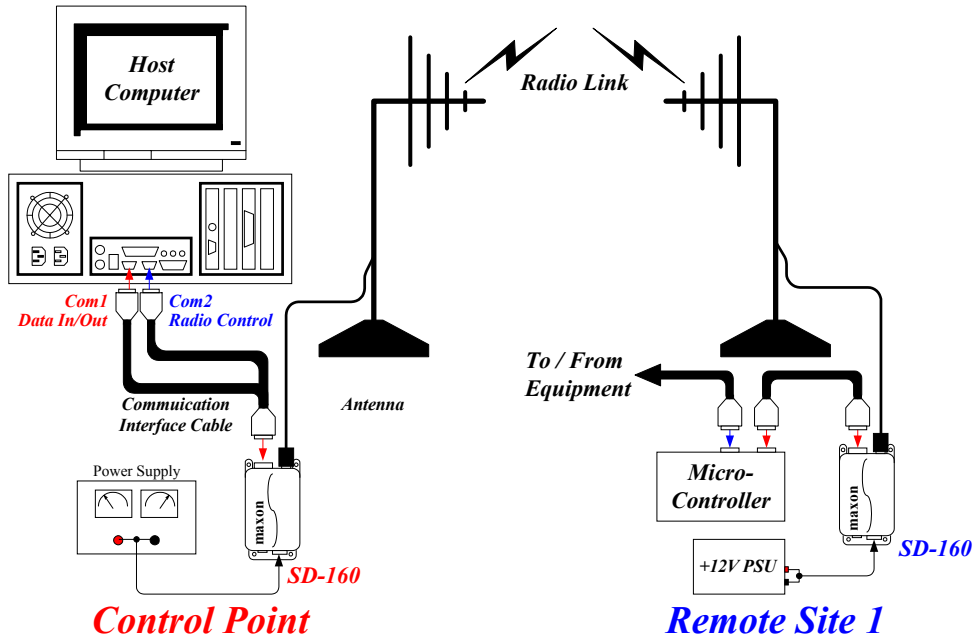

Figure 4.2. Telemetry Application
- Point to point telemetry using FFSK or GMSK modulation with RS232 control via a micro-controller. User applications for this may include remote control data links such as control of a remote paging transmitter or single direction status reporting or data flow (see Figure 4.2.) from a gas pipeline monitoring station.